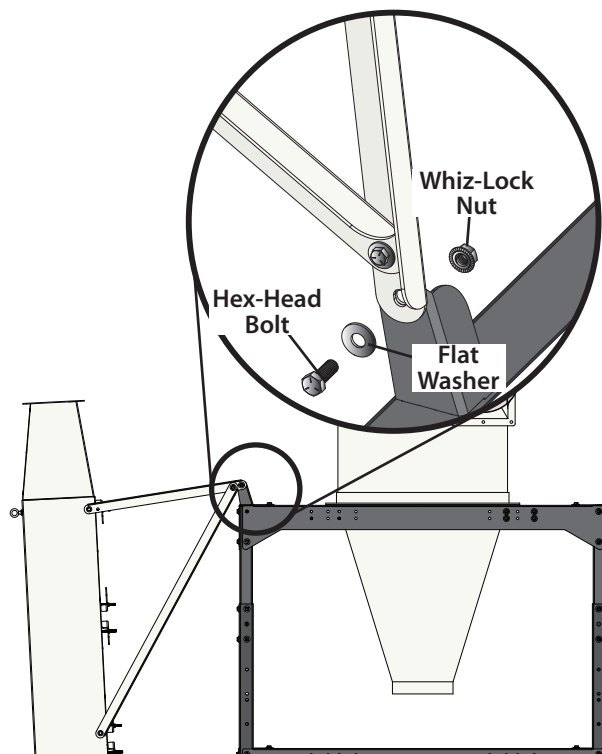

FIG. 13
Lift the Plenum Assembly (F) up and attach to the Stand (H) by connecting each of the Short Plenum Support Braces (G5) to the Stand's tab, securing in place with the Hex-Head Bolts, Flat Washers, and Whiz-Lock Nuts set aside during Step #1. [FIG. 13]. Support the Plenum Assembly during installation using a step stool, material lift, or other installer.